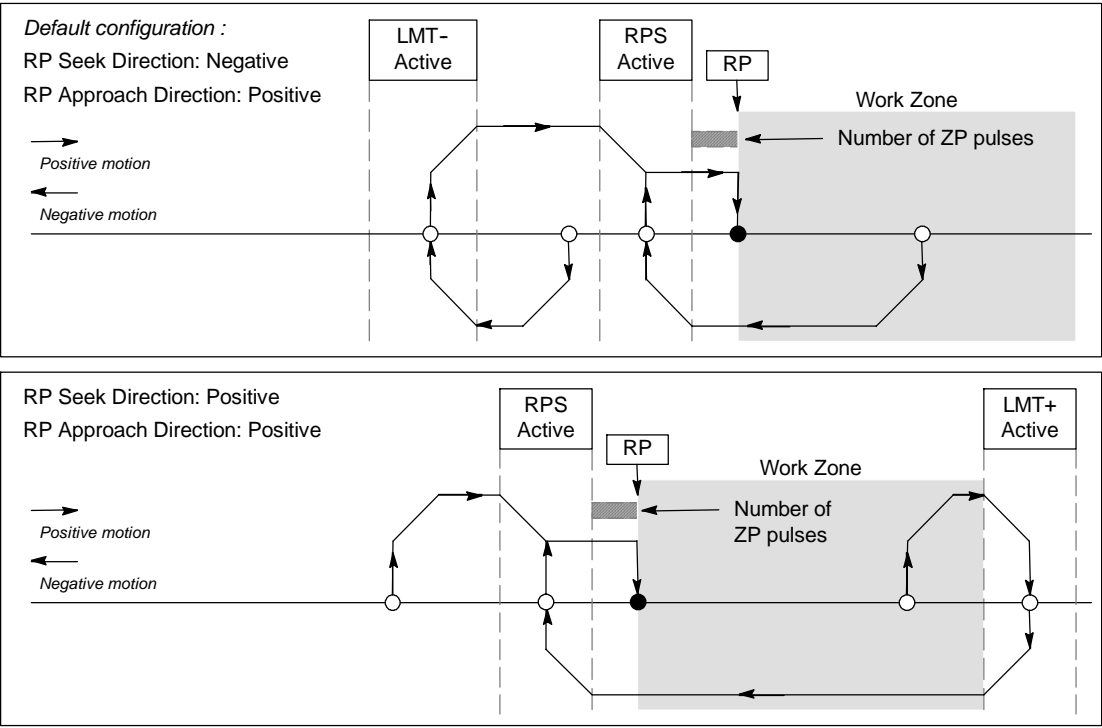

Figure 9-23 RP Seek: Mode 3
- ❑ Figure 9-23 shows two of the options for RP seek mode 3. This mode locates the RP a specified number of zero pulses (ZP) outside the active region of the RPS input.